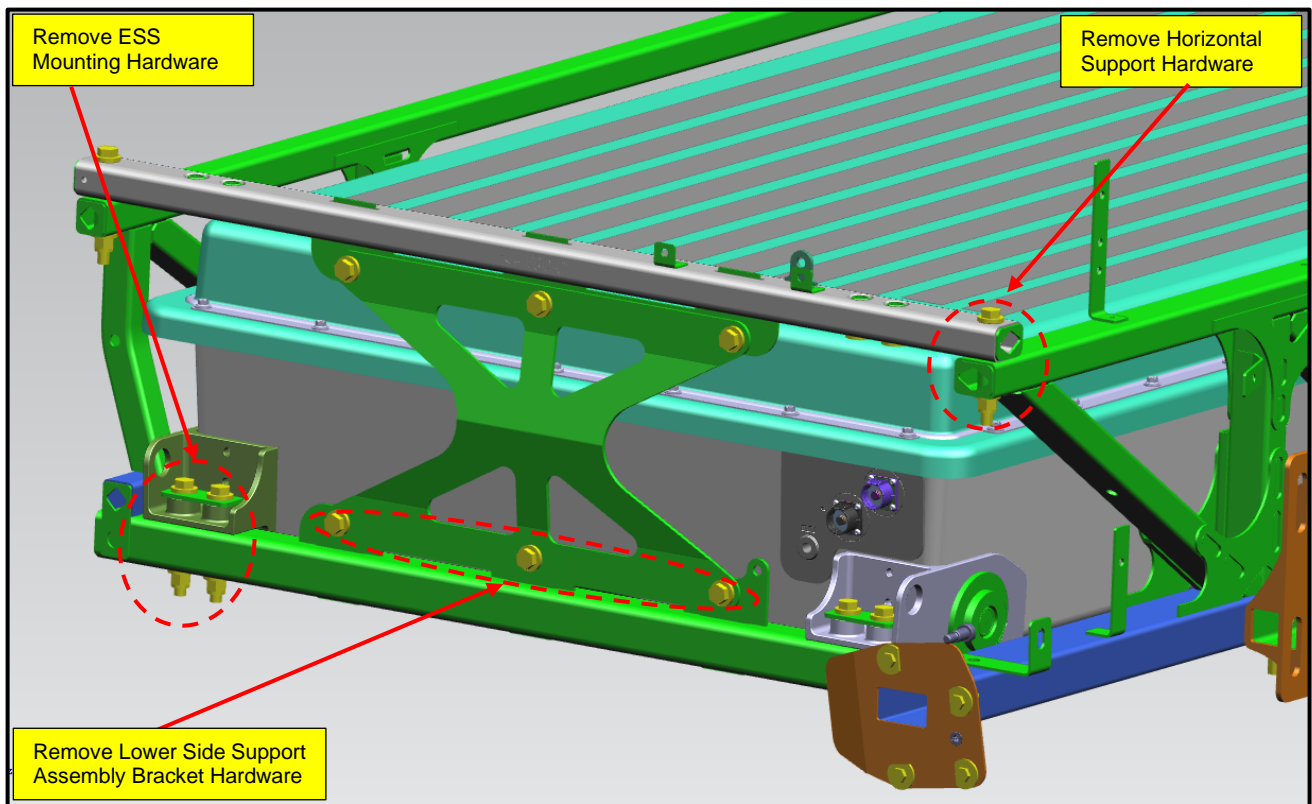

Figure 27A: Rear ESS Pack Assembly Removal and Installation Location Reference.
74. Remove the hardware 3 each from the lower side support assembly bracket from both sides and set hardware aside for re-installation. See Figure 27A.
75. Remove the hardware 2 each from the upper horizontal supports from both sides and set horizontal supports and hardware aside for re-installation. See Figure 27A.
76. Remove fasteners securing ESS1 to the frame assembly (four fasteners on each side) and hardware aside for re-installation. See Figure 27A.